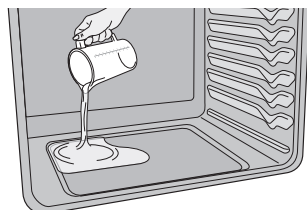

Figure 31: Add 2 cups of tap water
3. Pour 2 cups of tap water onto the oven bottom. (Figure 31) Close oven door.